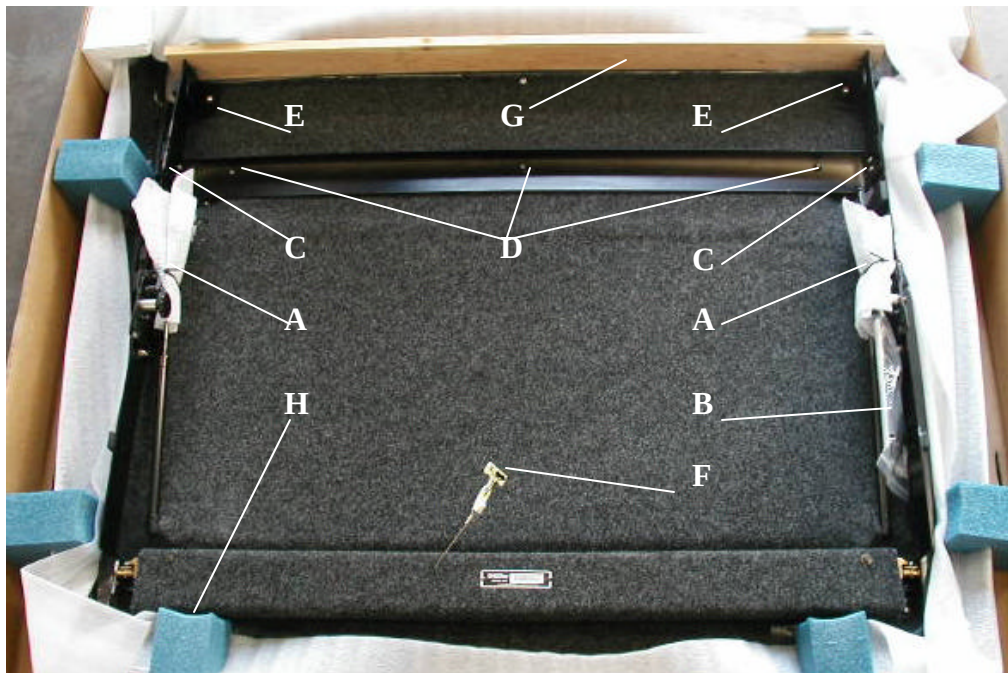

Figure 1.
1. Remove the two zip ties that are holding the gas springs and the hardware kit. **Items A and B in Figure 1.**
2. Remove the frame's cross bar. This will require loosening four phillips head screws and three 7/16" nylock nuts. **Items C and D in Figure 1, respectively.**
3. Remove the two phillips head screws holding the front frame brackets. **Items E in Figure 1.**
5. Pull on the emergency release handle to unlatch the passenger and driver side frames and remove them from the box. **Item F in Figure 1.**
6. Remove the 1 x 4 wood board. **Item G in Figure 1.**
7. Remove all of the foam blocks. **Item H in Figure 1.**